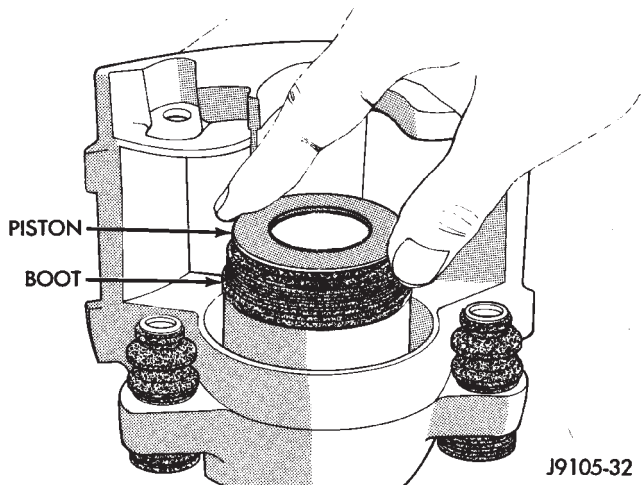
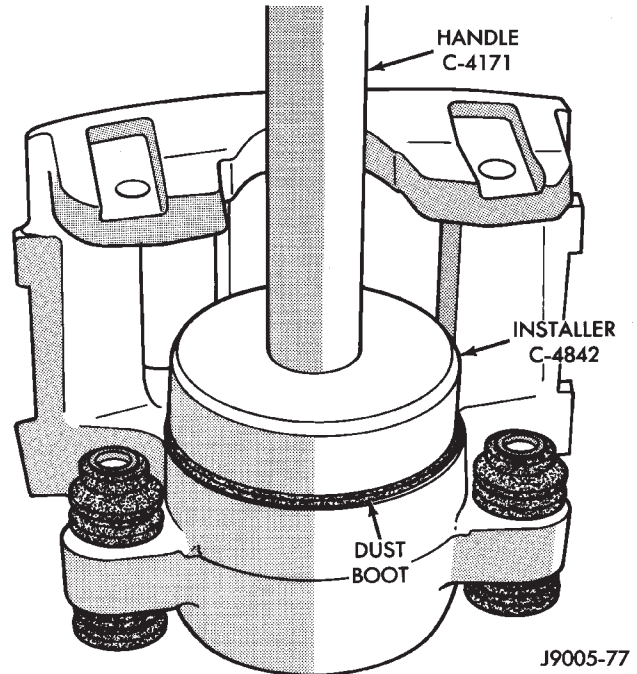

Fig. 54 Caliper Piston Installation
Fig. 55 Piston Dust Boot Installation
- (6) Press piston into caliper bore by hand, use a turn and push motion to work piston into seal (Fig. 54).
- (7) Press caliper piston to bottom of bore.
- (8) Seat dust boot in caliper with Installer Tool C-4842 and Tool Handle C-4171 (Fig. 55).
- (9) Replace caliper bleed screw if removed.